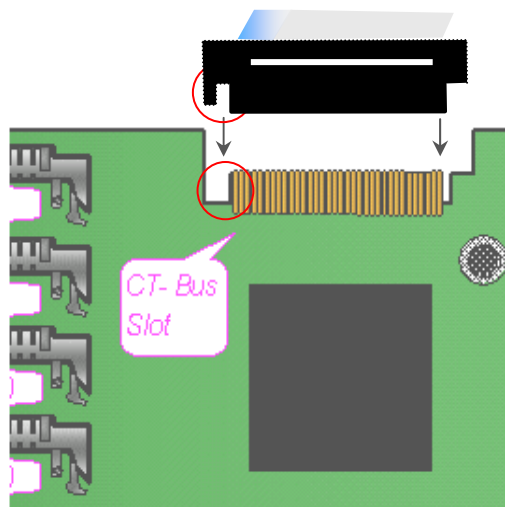

Figure 2-16 Connection of H.100 Bus
- ① See Figure 2-16 for correct insertion. Do not twist or insert in the opposite direction.